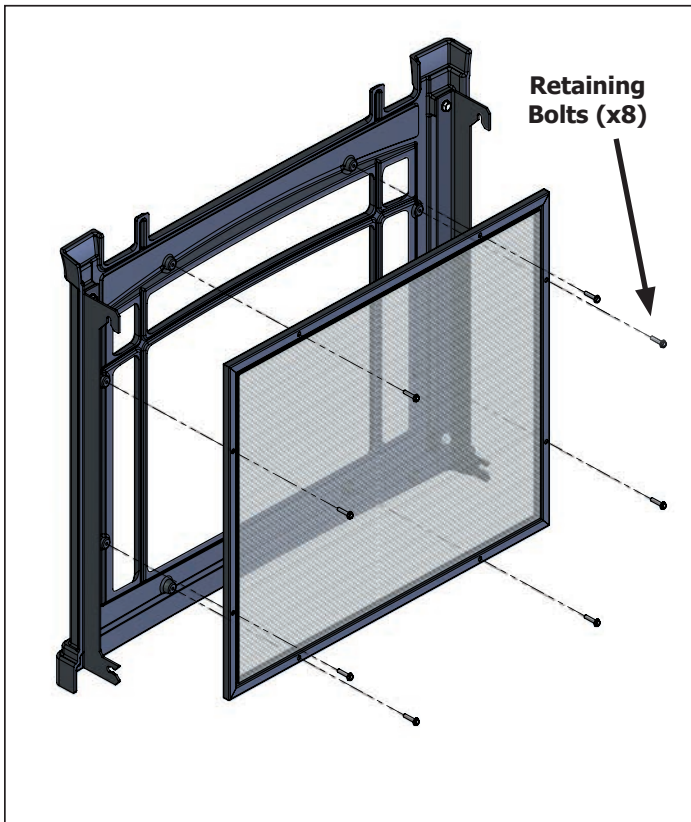

Figure 48. Safety Screen Removal - Front
Step 4: If replacing the side screen skip to step 5. If replacing the front screen remove the eight (8) retaining bolts (Figure 48) using a 1/4" socket and remove the damaged screen while noting the orientation. Install the new screen (50-3243) by simply re-installing the retaining bolts. Re-install the cast door and top to finish.